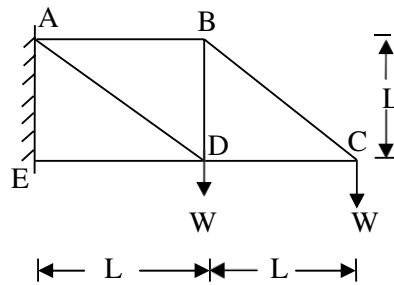

Figure 1
7. Determine the member forces of the truss shown in Figure 1, using method of sections.